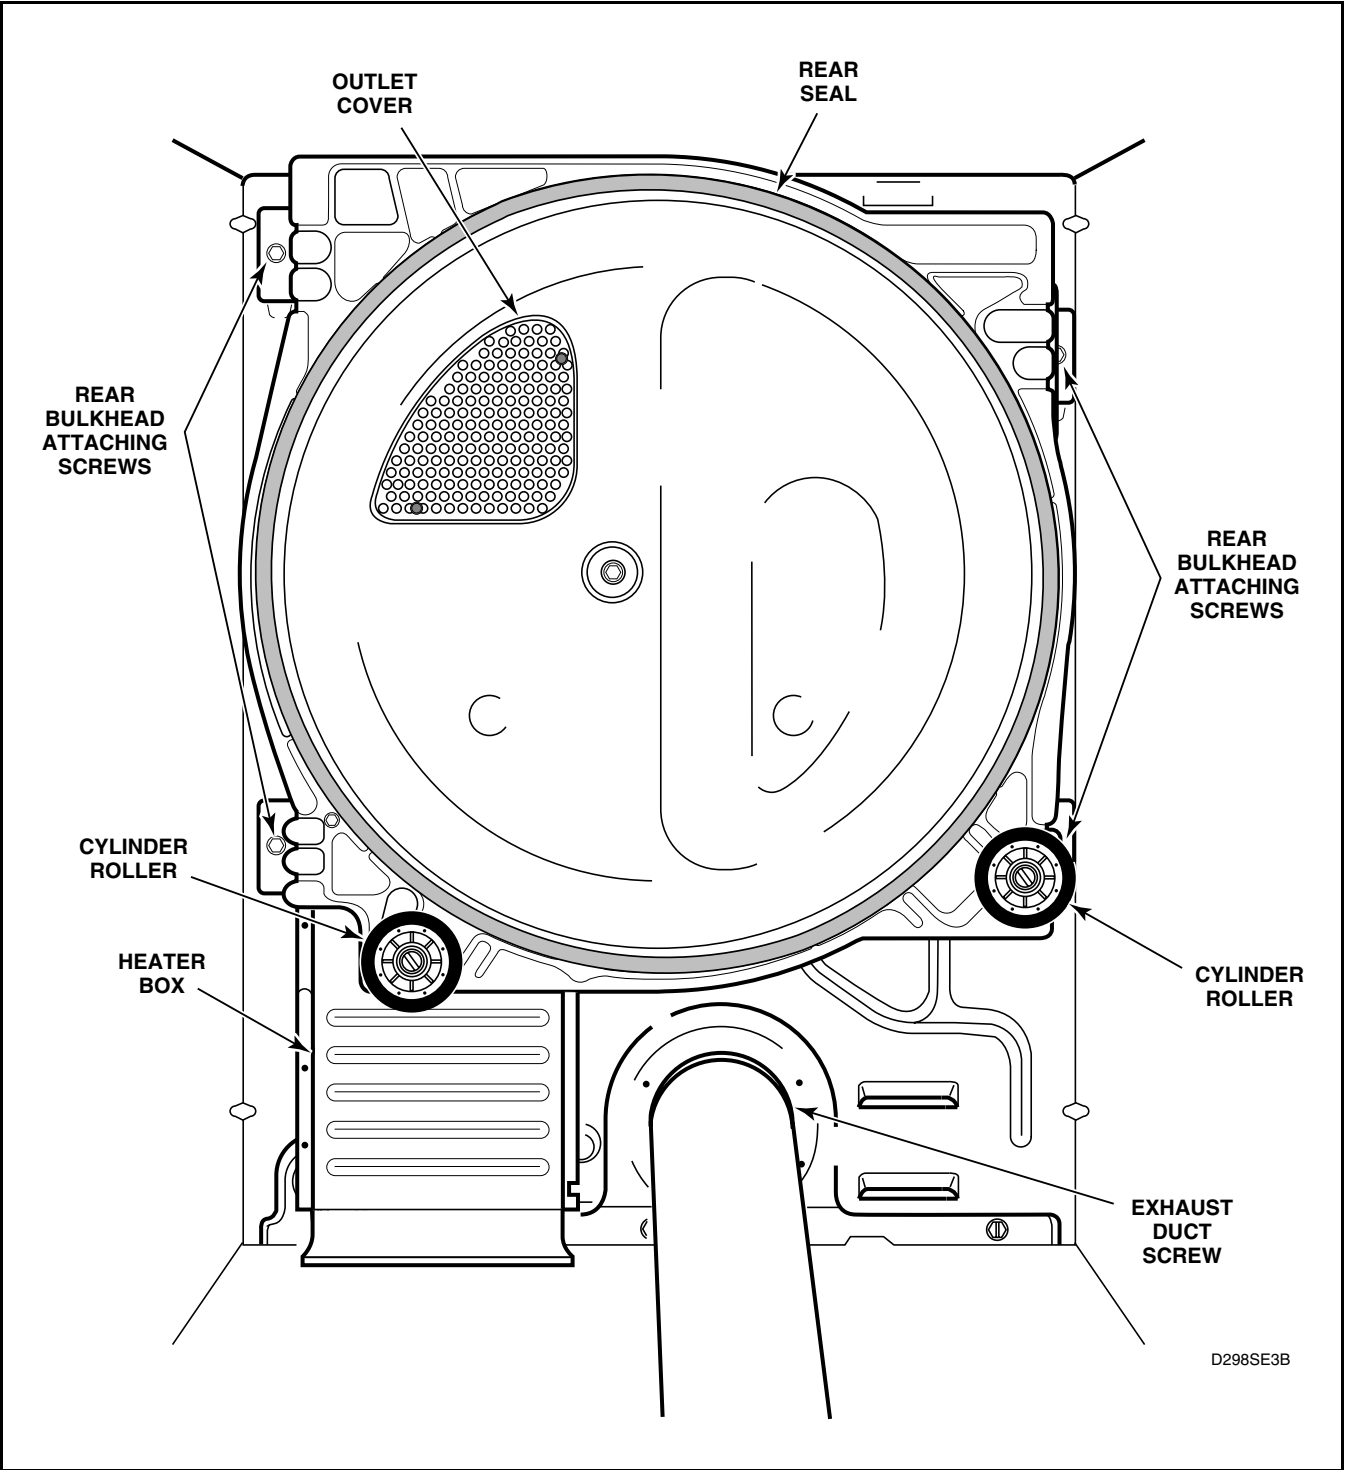

Figure 39
- j. Pull rear cylinder seal from flanged edge of bulkhead. Refer to *Figure 39*.
- Open door and remove two screws holding outlet cover to rear bulkhead. Refer to *Figure 39*.
- k. While supporting bulkhead, remove the four screws holding rear bulkhead to dryer cabinet, then lift complete assembly out of dryer. Refer to *Figure 39*.